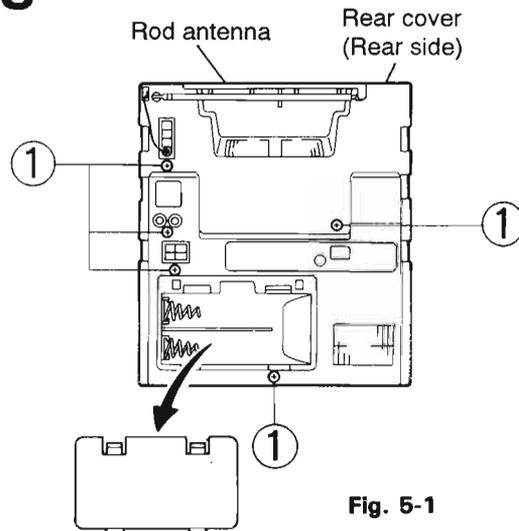

Fig. 5-1
1. Remove the five screws (1) retaining the rear cover from the back of the body (Refer to Fig. 5-1).